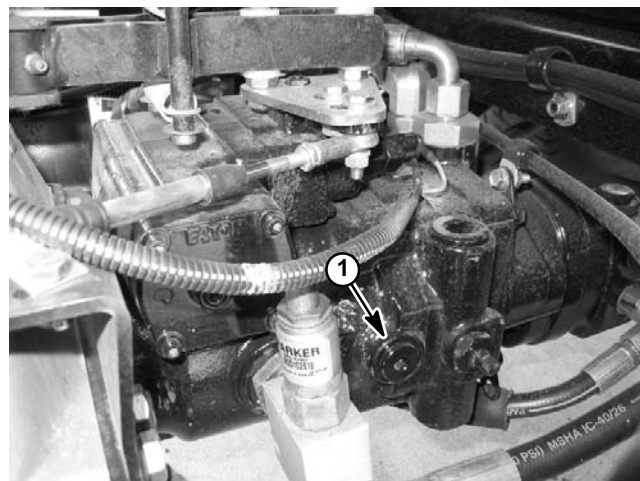

Figure 13
3. Remove plug from auxiliary test port on left side of piston (traction) pump (Fig. 13). Connect a 1000 PSI gauge into auxiliary test port.